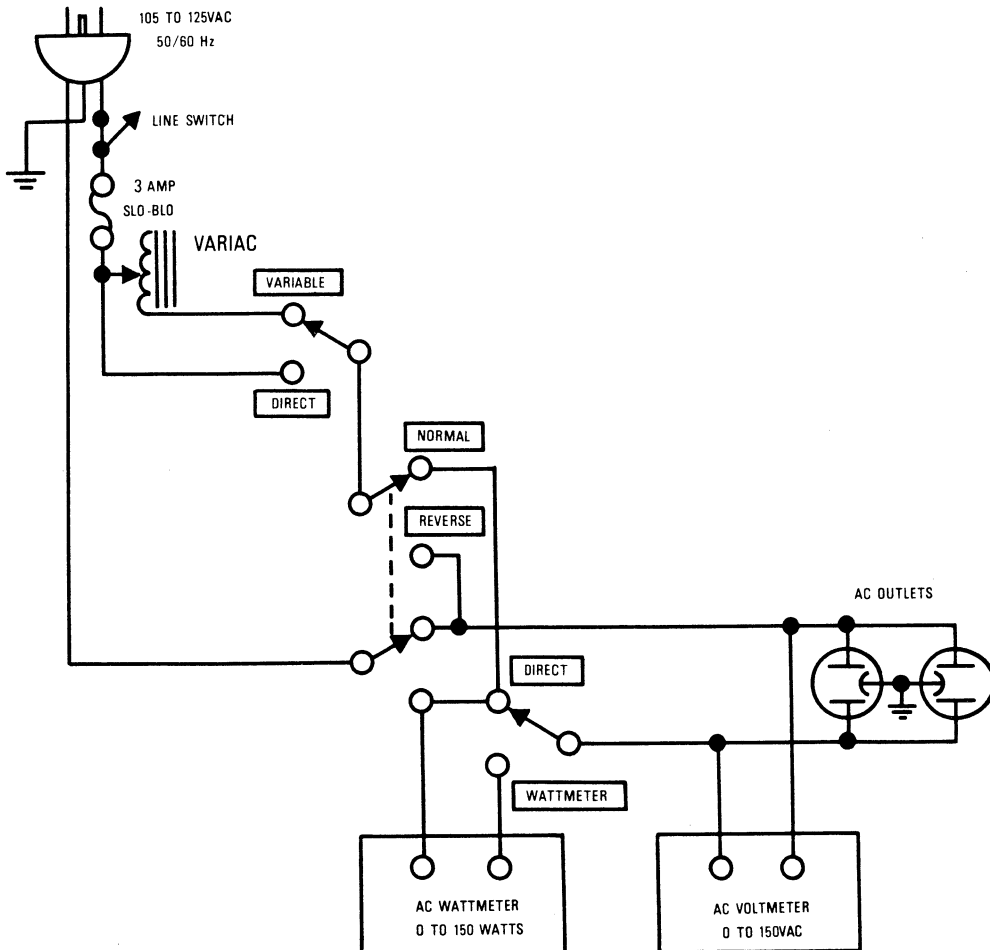
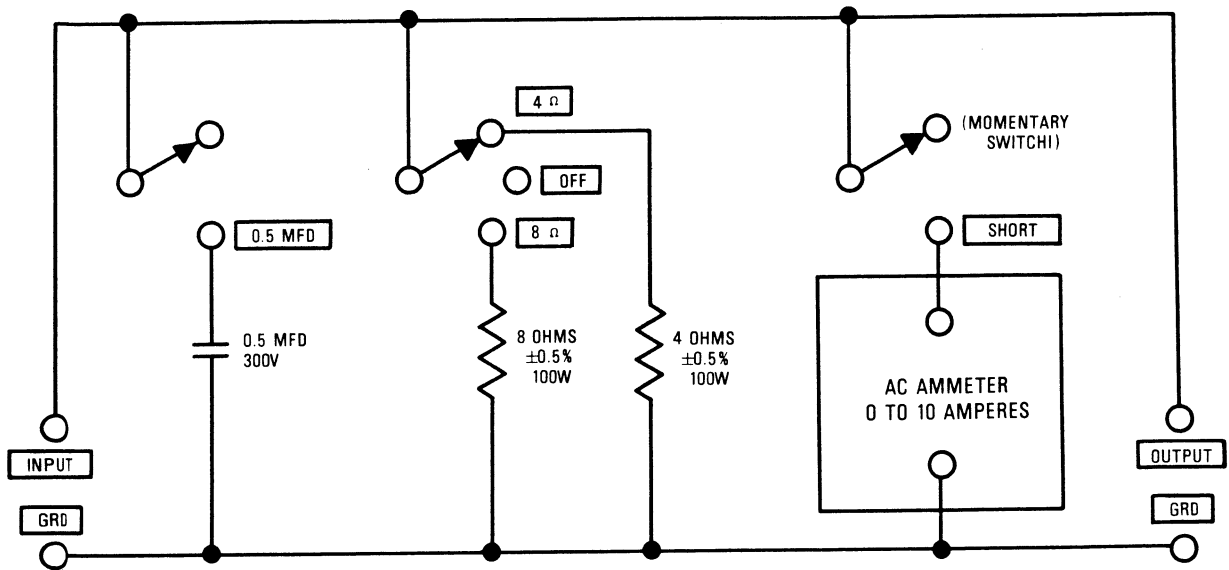

Figure 1. AC Power Control Box Simplified Schematic
Figure 2. Amplifier Output Load Box Simplified Schematic
1. Make the test setup shown in Figure 1 with the instrument controls set in the following positions:
Table 1 lists the test equipment required for servicing the Model 1040 Stereo Console Amplifier. The wattmeter, AC voltmeter, and variac may be assembled as a test fixture as shown schematically in Figure 1, and the load resistors and AC ammeter may be assembled into a second test fixture as shown in Figure 2.